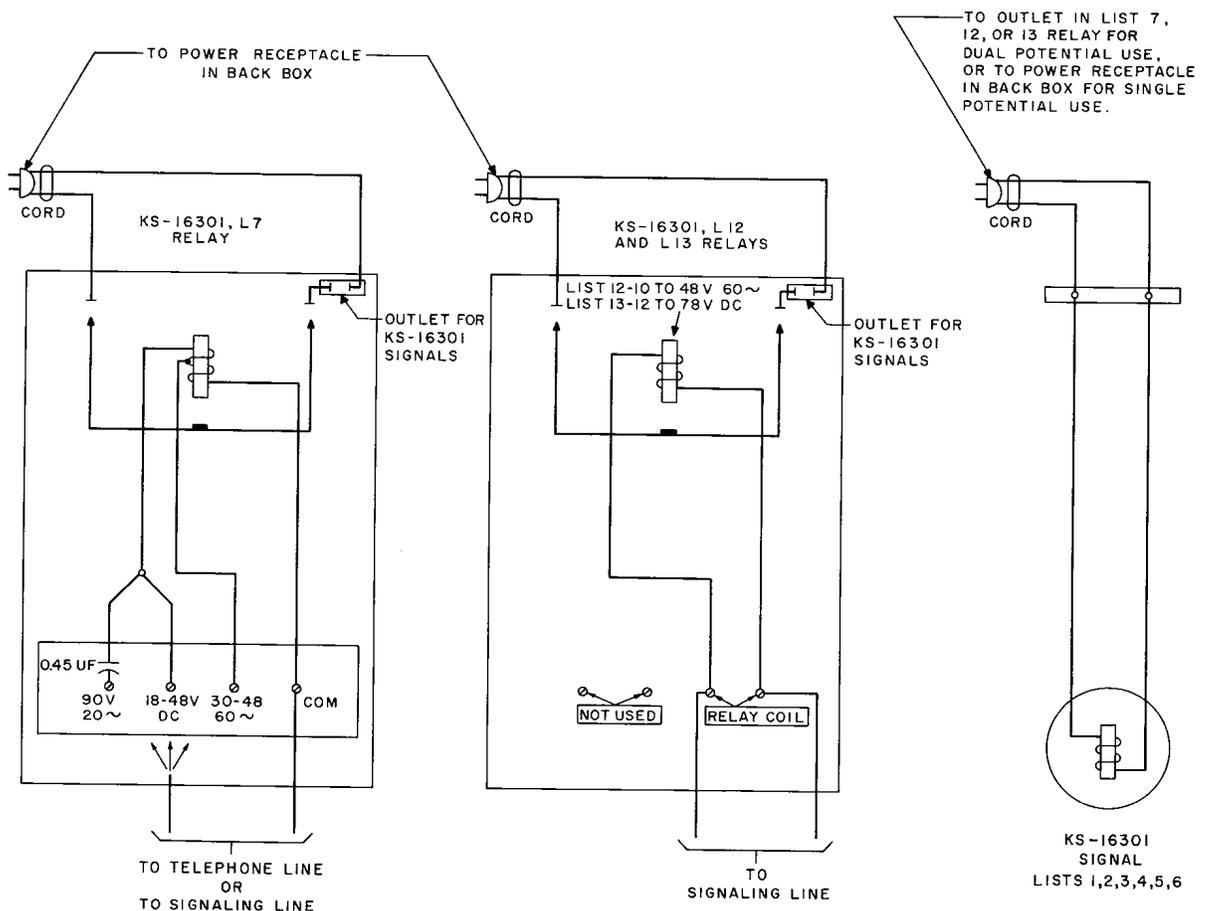

Fig. 1 — KS-16301 Signal Connections
2.01 Connections for relays and signals are shown in Fig. 1. Also shown are the voltage values and terminal locations on the list 7 relay.